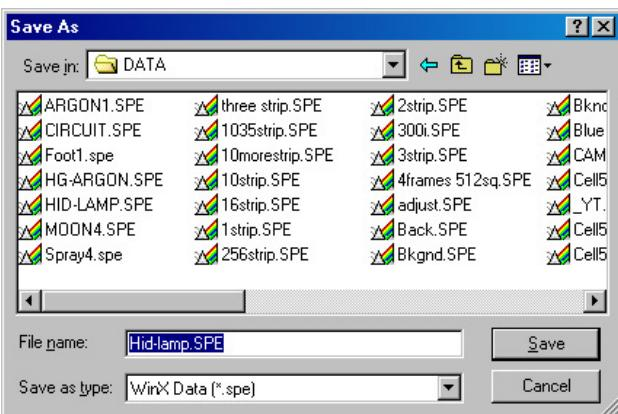

Figure 54. Data File Save As dialog box
1. Select **Save As** from the File menu. The Data File Save As dialog (Figure 54) appears.